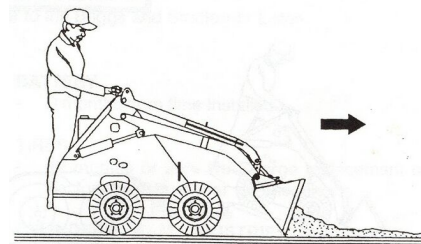

Figure 16
1. To spread material on uneven ground, raise lift arms and tilt bucket forward while driving slowly forward, as shown in Figure 16.